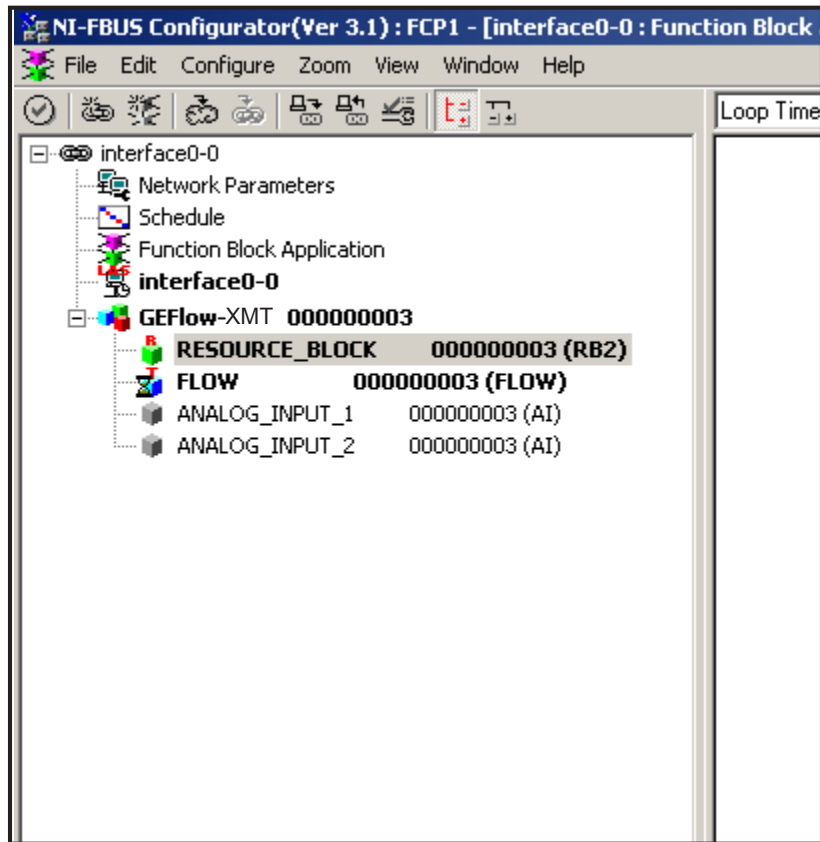

Figure 58: Configuration Utility Setup Example
Figure 58 shows the Configuration Utility with a flowmeter on the network (GE Flow-XMT).
1. Double click on the AI block for which you wish to set the units (ANALOG\_INPUT\_1 or ANALOG\_INPUT\_2 in the tree under GEFlow-XMT; see Figure 58 on page 152).
1. Double click on the FLOW transducer block (in the tree under GEFLOW-XMT; see Figure 58 on page 152).